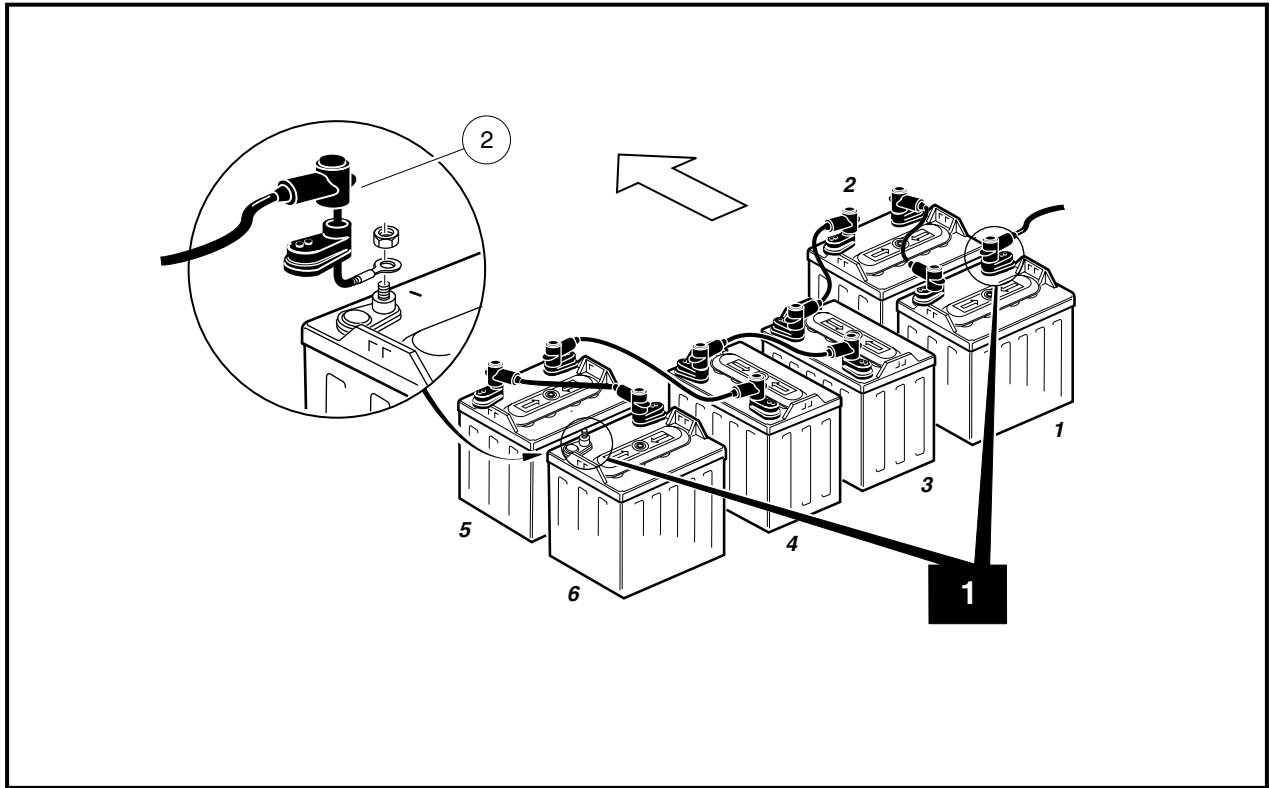
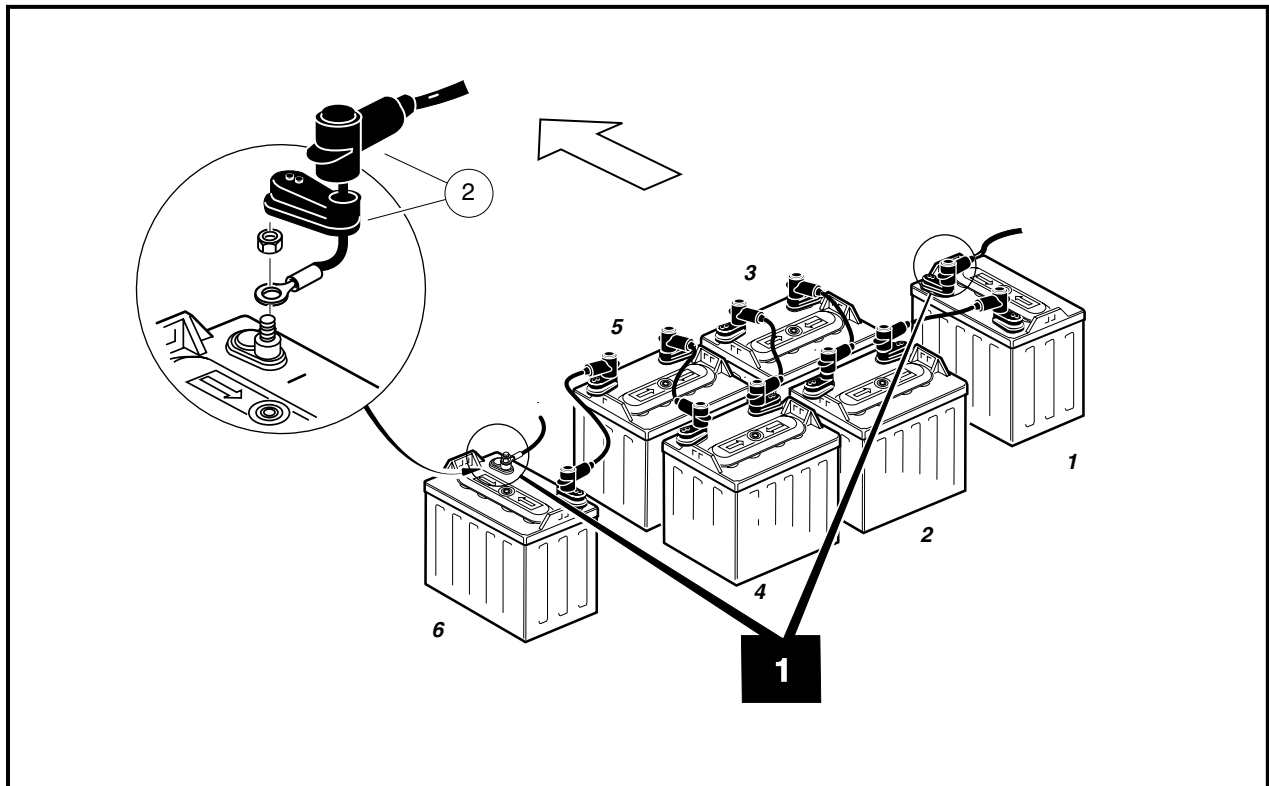

Figure 2 Carryall 1 PowerDrive Battery Configuration
Figure 3 Carryall 2 and 6 PowerDrive Battery Configuration
- Disconnect the battery cables as shown (1) (Figure 2, Page 17 and Figure 3, Page 17), negative (-) cable first.
- When reconnecting batteries, secure protective rubber boots (2) over battery terminals.